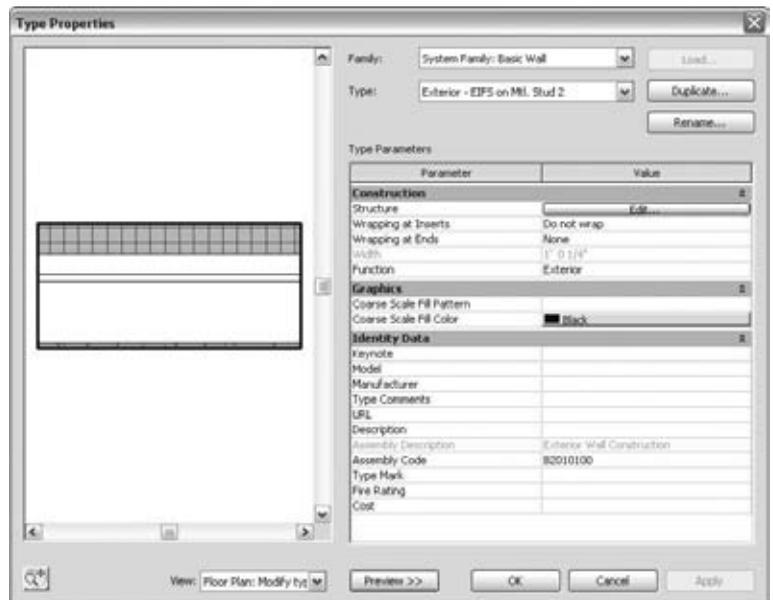

Figure 13.1
4. Start editing the wall by clicking the Edit button under Structure. Doing so opens another dialog box where you can add and modify layers of the wall structure. Don't forget to activate the preview of the wall on the left side. By clicking the fields for Function, Material, and Thickness, you can change the values (see Figure 13.1).